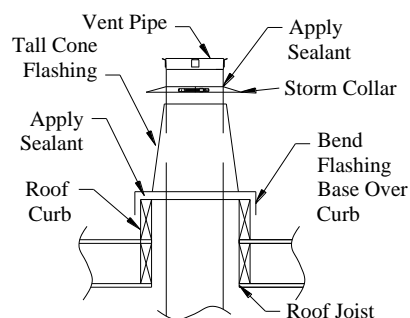

Fig 17B. (Tall Cone Flashing on Roof Curb)
7. Install Vent pipe through the Tall Cone. Refer to corresponding section for instructions on installing the Storm Collar and Rain Cap (See Fig. 17B).